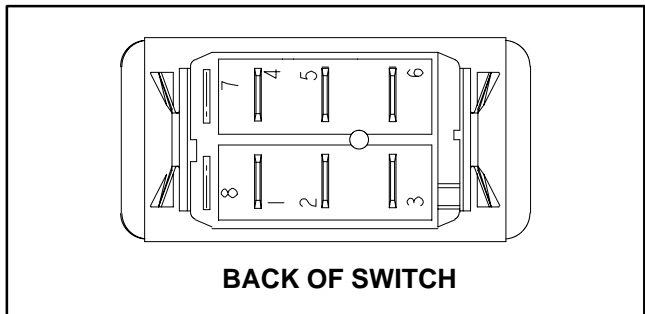

Figure 28
C. With the use of a multimeter (ohms setting), the switch functions may be tested to determine whether continuity exists between the various terminals for each switch position. The PTO switch terminals are marked as shown in Figure 28. The circuitry of this switch is shown in the chart below. Verify continuity between switch terminals.